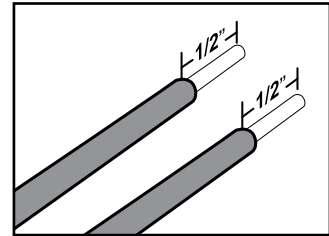

figure 4
- Using a wire stripper, strip about one half inch ( $\frac{1}{2}$ " ) of the coating from the tips of the Boundary Wire to expose clean, non-corroded Boundary Wire. (fig. 4)